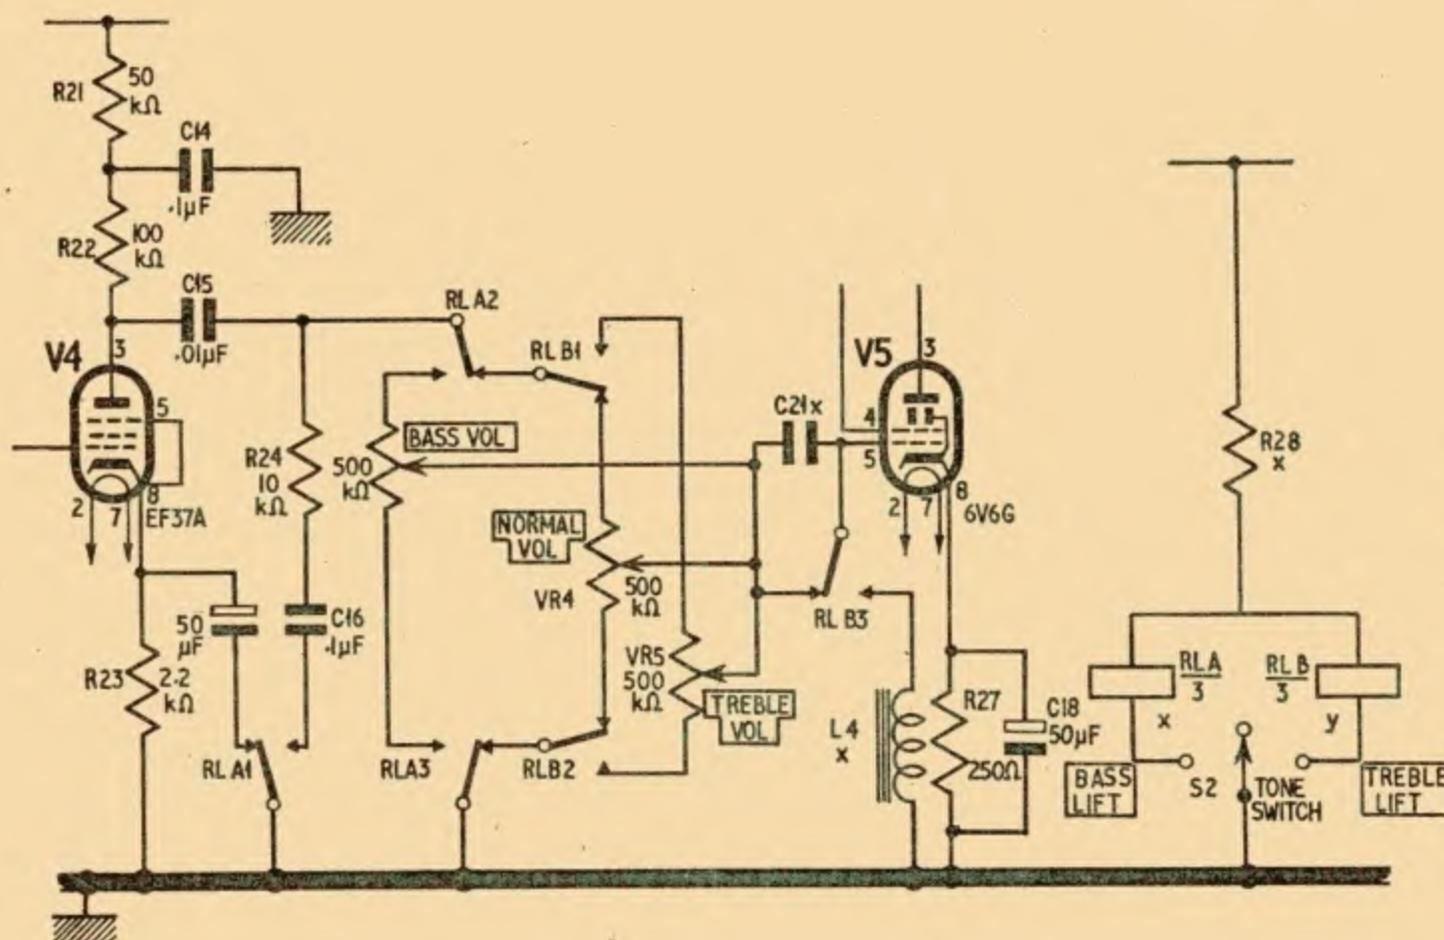

Fig. 4. Alternative complex tone control circuit between V4 and V5
1. Value of R28 is determined by the current requirements of RLA (and RLB if used see Fig. 4).
The complex circuit (Fig. 4) involves more components but it is well worth adopting. A second relay is connected in the h.t. circuit as shown, with S2 changed to a three-way switch to give bass lift, treble lift or neither. We now have two sets of relay contacts RLA and RLB. The positions of the contacts shown in the circuit indicate their function in the non-operated condition.